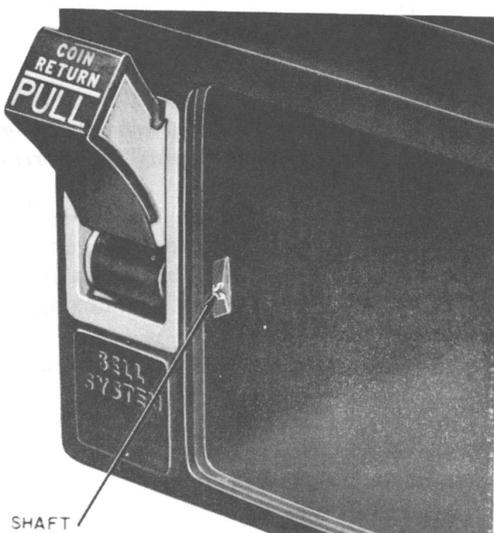

Fig. 21 — Pull Bucket Retaining Shaft
- (1) Use diagonal pliers to pry up tabs on split end of pull bucket retaining shaft (Fig. 21).
- (2) Compress tabs with pliers to line up with shaft.